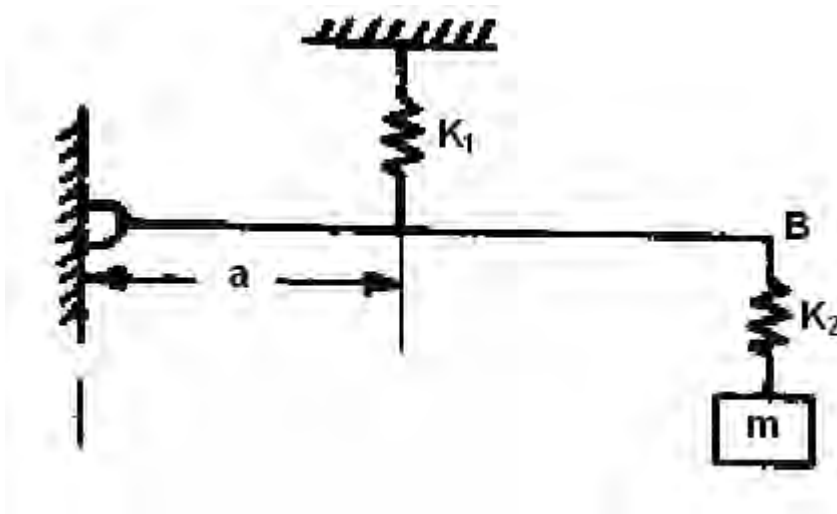

Figure 8a:
8. (a) Drive the differential equations of motion for the system shown in figure 8a.